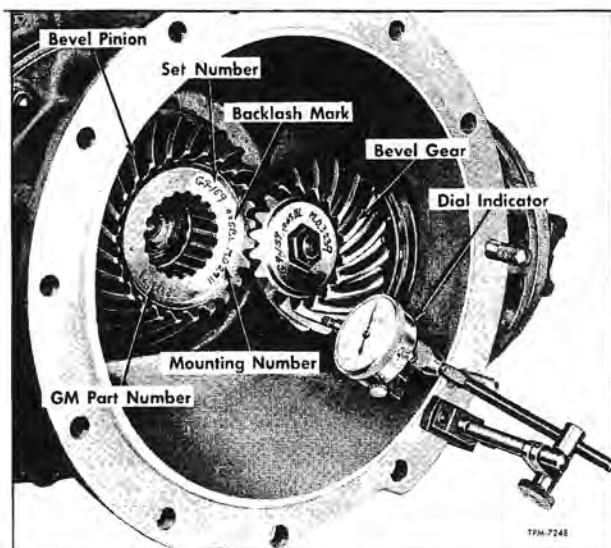

Figure 114—Checking Bevel Gear Backlash
Backlash dimension is etched on pinion and bevel gear as shown in figure 114.
2. Check gear backlash using dial indicator positioned as shown in figure 114. Dimension should be same as etched on gears. Adjustment can be accomplished through shims (5 and 19) provided between bevel gear bearing retainer (4) and accessory drive housing (20), and between bevel pinion bearing retainer (21) and accessory drive housing (20). Shims are of 0.003", 0.010" and 0.031" thickness.